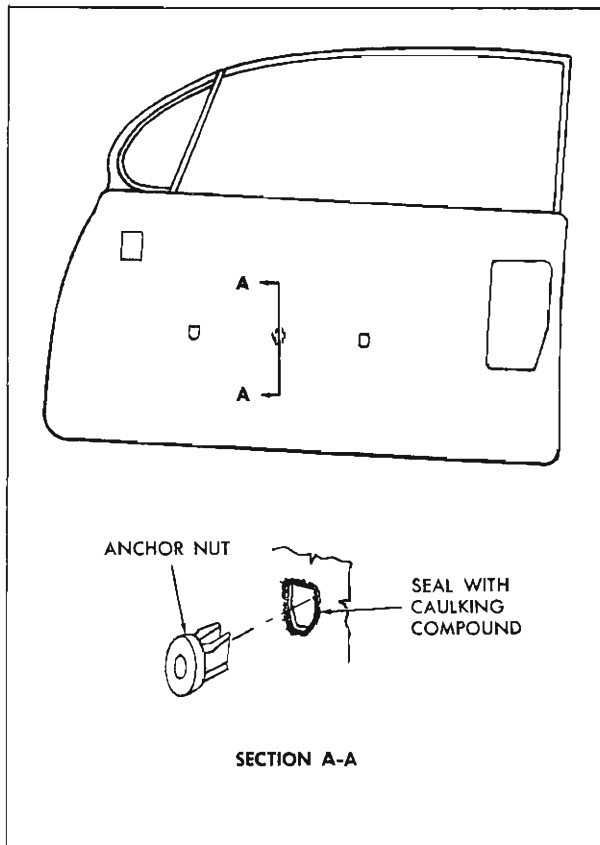

Fig. 12-2 Arm Rest Anchor Nut
All arm rests are the applied type and are secured to the door inner panel by two (2) attaching screws which fit into self-threading plastic anchor nuts which snap into the door inner panel. The anchor nuts are sealed to the door panel with body caulking compound and are replaceable as a service part (Fig. 12-2).